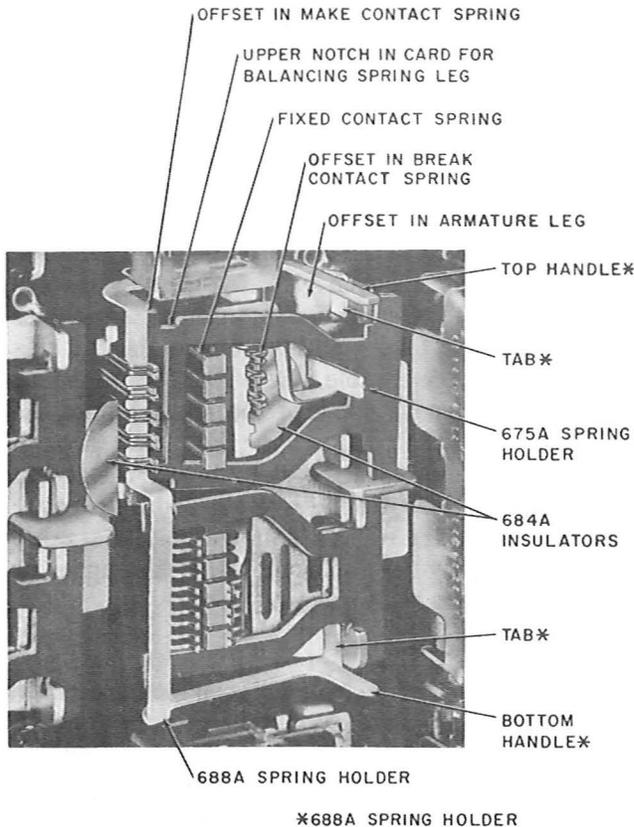

Fig. 29—688A Spring Holder Mounted on Relay (675A Spring Holder and 684A Insulators in Place on Upper Half of Relay)
4.18 The 688A and 688B spring holders are used to hold make contact springs of the upper and lower halves of the relay, respectively, during replacement of the associated card. Each of the spring holders has five notches to engage the five pairs of make contact springs with which it may be used. It is important that the pairs of springs are engaged by the proper notches in the holders. Special care is required to engage the pairs of springs in the proper notches if all five positions on the relay are not equipped with these springs. Each of the spring holders has a top and a bottom handle. On the 688A spring holder, the bottom handle is adjacent to the unnotched section; on the 688B, it is adjacent to the notched section. The 688A spring holder is shown mounted on the relay in Fig. 29. To mount either the 688A or 688B spring holder, proceed as covered in 4.19.
the bottom handle and insert the notched section of the holder between the make contacts so it touches the card. Swing the handle of the holder to the right and position the notched section behind the make contacts. Release the card. Using both hands, grasp the top and bottom handles of the spring holder. Position the holder so its tab adjacent to the card being replaced is in front of this card and the pairs of make contact springs are engaged in the proper notches. With the springs in the notches, move the holder to the left and position it so each tab rests against the left side of the adjacent armature leg. Make sure that the notches section of the holder is against the offset in the make contact springs and that the inner edge of each tab is against the offset in the armature legs as shown in Fig. 29.